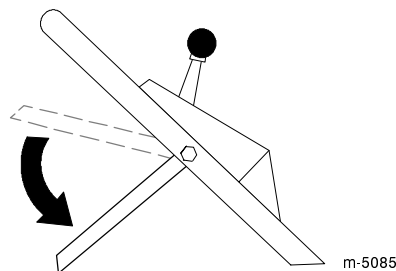

Figure 14
8. Move the control bar down to its lowest position (Fig. 14).
3. Push the control bar (Fig. 14) down to its lowest position.